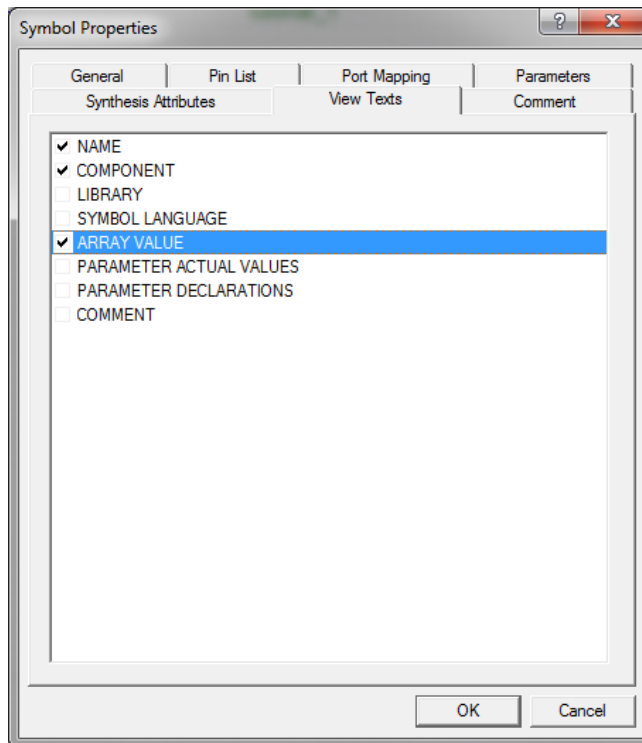

Figure 14
5. Click the “View Texts” tab and check the box next to the “Array Value” option (Figure 14). Then click the OK button.